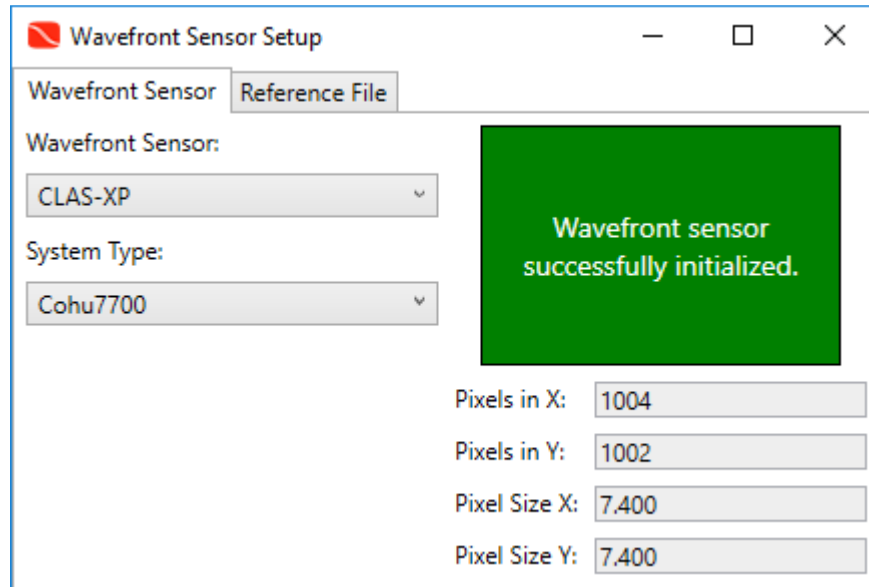

Figure 9: Wavefront sensor setup window
- b. Figure 9 shows the selection of Wavefront sensor and Figure 9 shows the wavefront sensor tab open.